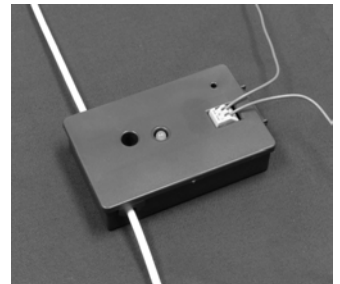

Figure 9
2. Replace the screw to hold the cover in place. (See Figure 9.)